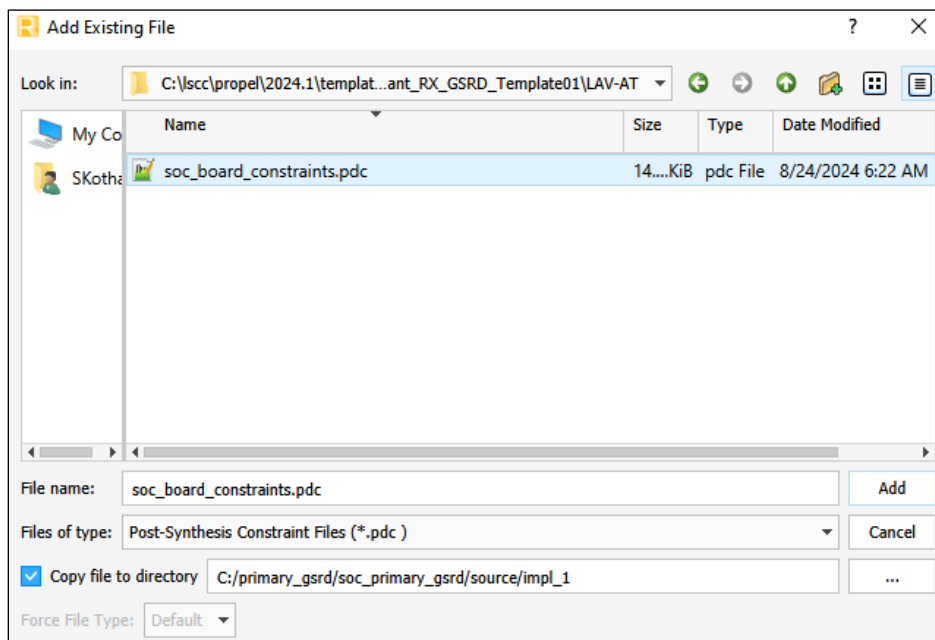

Figure 8.51. Select soc_board_constraint.pdc File
7. Similarly, add the soc_board_constraints.pdc file to the Post-Synthesis Constraint Files as shown in Figure 8.51. Click **Add**.